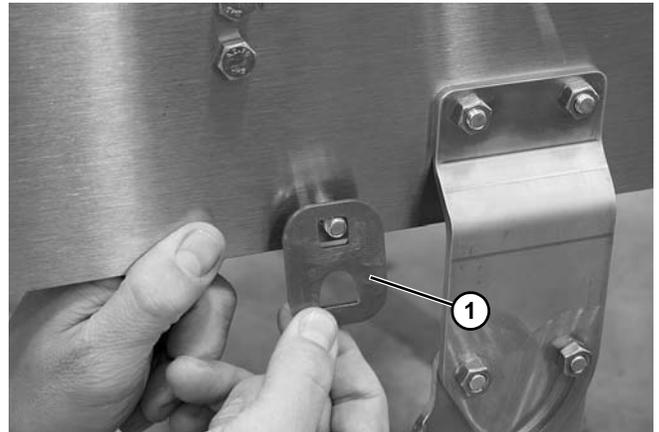

Figure 18
2. Install return bracket (Figure 18, item 1).